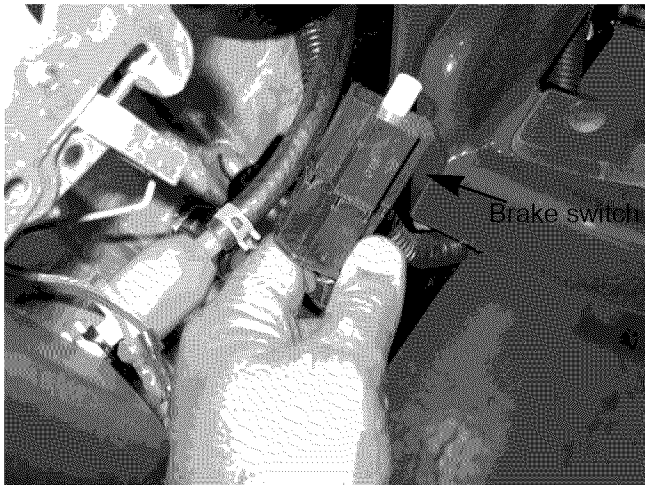

Figure 7.14
3. Reach in between the left side of the engine and the dash. Pull the switch and harness pigtail out as one piece. See Figure 7.14.